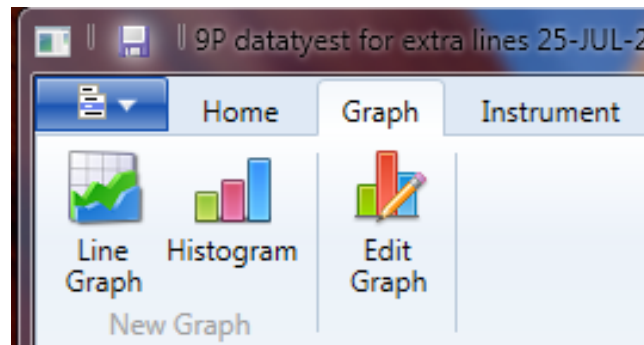

Figure 10
- U2CI Graph Menu (Figure 10).